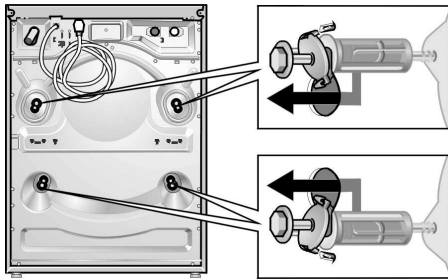

Figure 14
- Completely remove all 4 transport bolt assemblies (bolt, washer and bushings) by reaching through the open washing machine door and pulling the drum slightly forward to loosen, then pull them out from the back (see **Figure 14**).